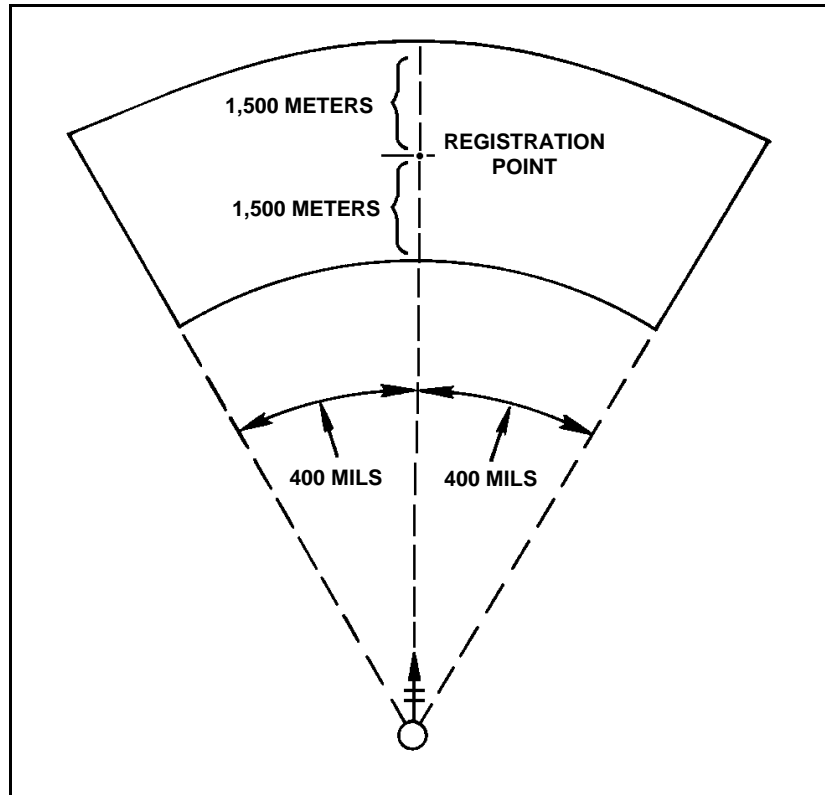

Figure 14-4. Transfer limits for one registration point.
f. **Determining Firing Corrections.** Once registration is completed, the firing corrections (range correction factor and deflection correction) are determined for use within the transfer limits of the RP (Figure 14-4). The computer applies correction factors to correct for nonstandard conditions (weather and equipment wear) affecting the round.